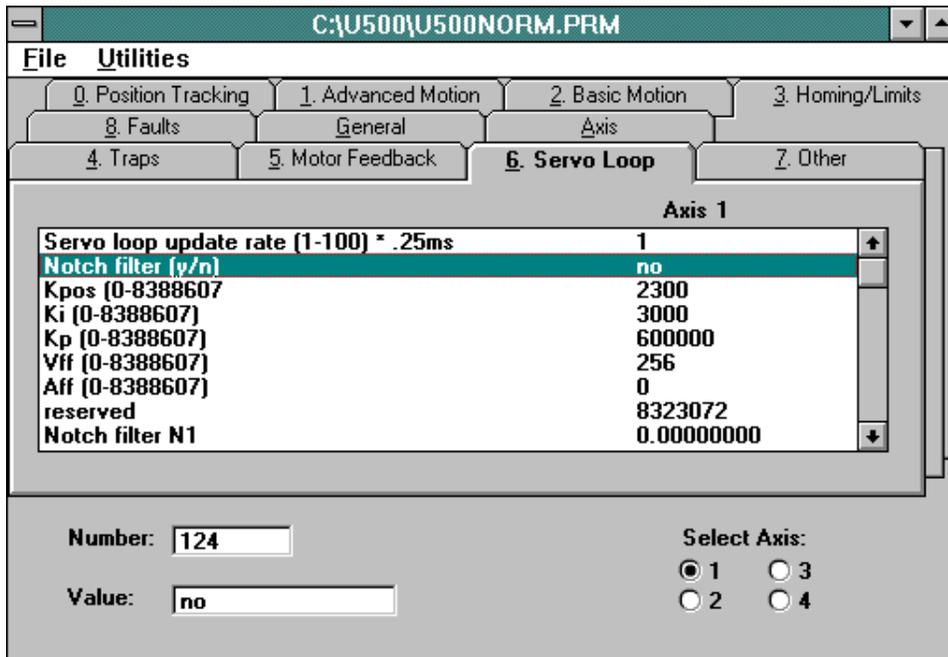

Figure 6-20. Servo Loop Tab of the Edit Parameters Window
3. The “*Servo loop update rate (1-100) x 0.25 ms*” Parameter from the Servo Loop tab, shown in Figure 6-20 must be set appropriately in order to get optimal performance from the system. The default update rate is 0.25 ms (4 kHz) and the user would put a 1 as that parameter’s value. Another common choice is 1 ms (1 kHz) and the user would put a 4 as that parameter’s value. Some low resolution systems (500 line encoders, etc.) or high inertia systems or low velocity systems perform better at a lower update rate such as 1 kHz. If the user doesn’t know what to use for this parameter then an update rate of 4 kHz should be used. However, an update rate of 1 kHz can be used. If the update rate is changed, the tuning process must be repeated.
4. Set servo parameters to initial value. While still in the Parameters window (refer to Figure 6-20) enter in the initial values for the servo gains. Table 6-3 has the initial values for these servo gains.